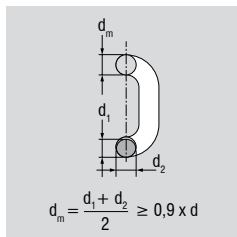

Fig. 11: Thickness loss of chain link
- Average thickness loss of the chain link anywhere in the device by  $> 10\%$  (Fig. 11)